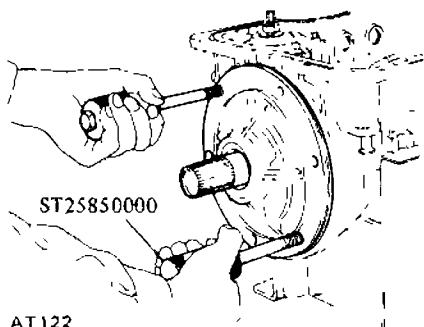

Fig AT-56 Removing oil pump
- 8 Withdraw oil pump using Sliding Hammer ST25850000. Do not allow front clutch to come out of position and drop onto floor. See Figure AT-56.